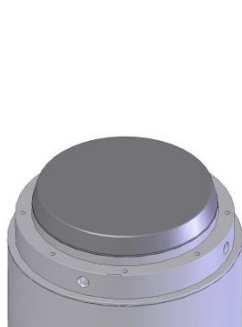

Figure 1
1. Clean and degrease the Cover, Ceramic Support, Ceramic Retaining Ring (C) and Ceramic Disc (A).
2. Lightly grease the O-ring (D) and place in the groove on the top of the Ceramic Support.
3. Rest the Ceramic Disc (A) centrally on the O-ring (Figure 1).
4. Place the Retaining Ring (C) over the Ceramic Disc (A). Apply a small amount of low strength thread-lock (e.g. Loctite 222) to 8 screws (E).